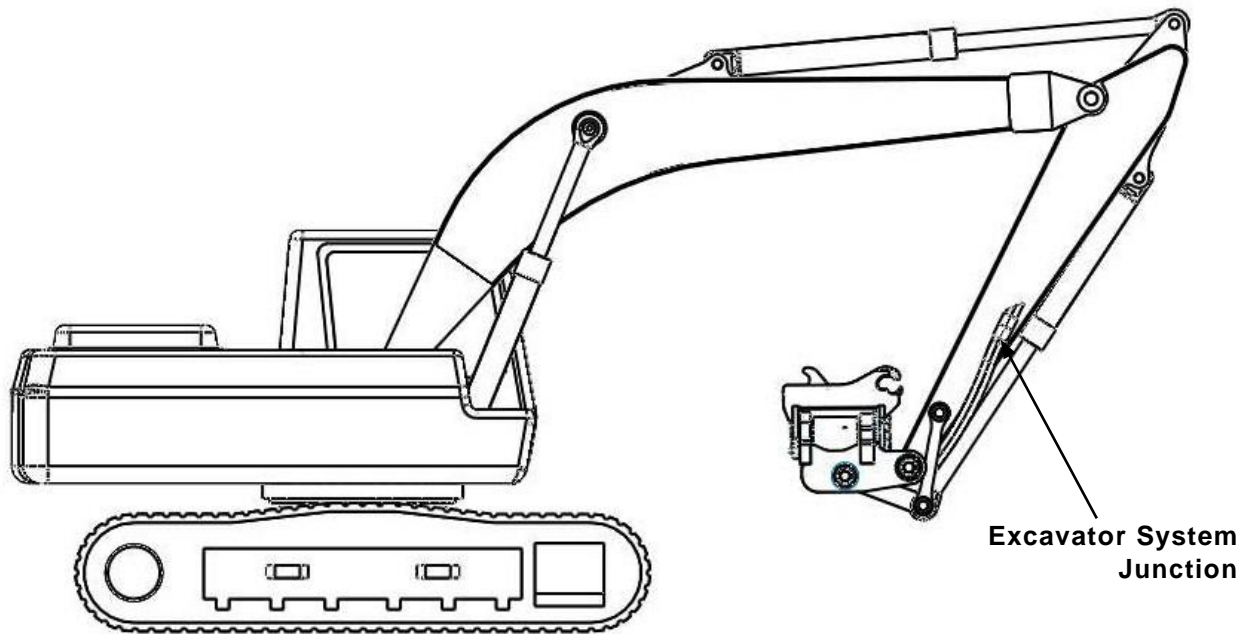

Figure 1: Boom Positions for Flushing Procedure – D-Tilt Inverted
2. Curl the D-Tilt (extend the stick cylinder) and position the stick boom and main boom until the D-Tilt is in the approximate position shown in Figure 1 below (fully inverted, D-Tilt ports facing down) and at a convenient distance from the ground.
6. Locate the hose which joins D-Tilt port P1 to the excavator hydraulic system. Prepare for leakage, and slightly loosen the connection at the excavator hose or pipe system junction, Figure 1, to relieve residual pressure. Then carefully disconnect the hose.